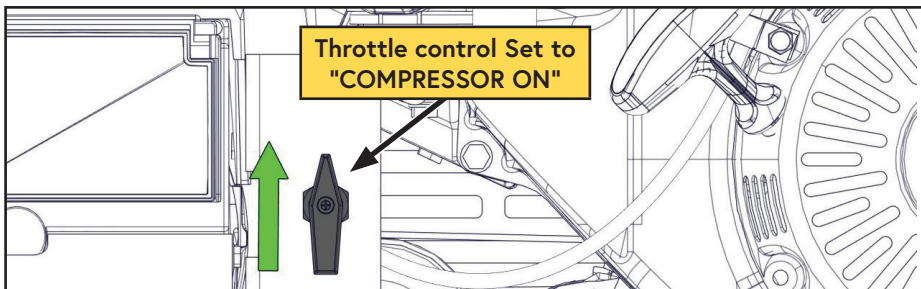

Figure 24 — Throttle control valve
- ☐ The throttle control valve should remain at "COMPRESSOR ON" (this will allow the engine speed to reduce to base idle when the system reaches maximum system pressure) (Figure 24).